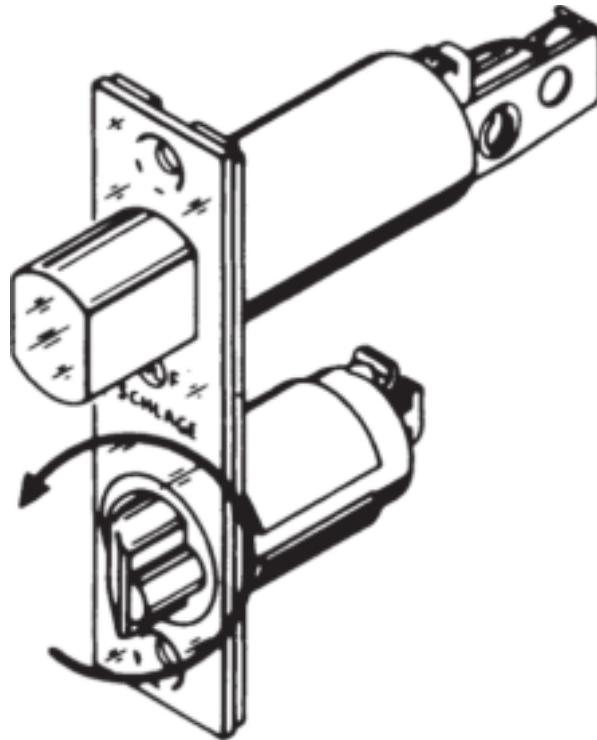

**Figure 13.90** Changing hand, Step 21.
21. Turn the deadlatch 180° (Fig. 13.90 ).